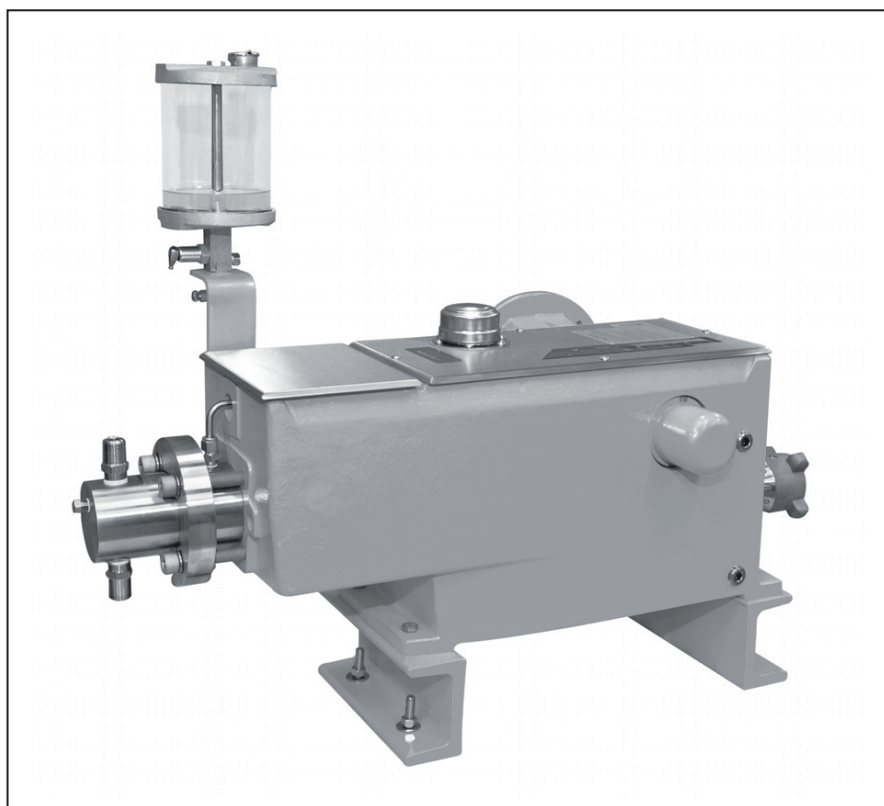

Figure 3. Packed Plunger Liquid End (Shown with optional oiler)
The pump consists of three major components: (1) a drive unit, (2) a reciprocating plunger, and (3) a liquid end. Pump delivery is a function of drive speed, plunger stroke length, and plunger diameter. In addition, delivered volume for a given pump can be varied by mechanical (micrometer hand knob) or (optional) electrical or pneumatic adjustment of plunger stroke length. Pump drives may be fitted with HPD (High Performance Diaphragm, Manual 54146), Disc Diaphragm (Manual 54145), HPD Low Flow (Manual 54149) as well as several styles of PP (Packed Plunger, Manual 54150) liquid ends (*See Figures 3 and 4*). This manual will concentrate on the mechanically adjusted drive unit only.